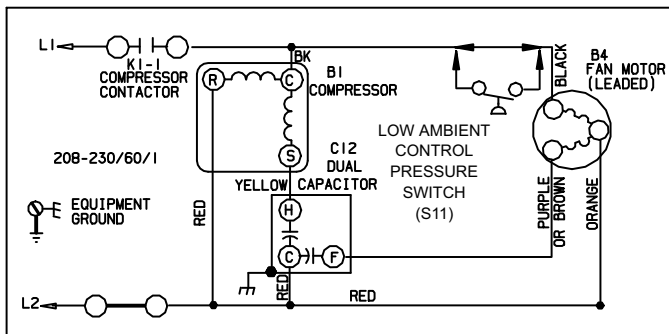

Figure 2. Typical Field Wiring of Low Ambient Control Pressure Switch (S11)
6. - Low ambient control pressure switch (S11) is wired in series with condenser fan. See figure 2 for typical field wiring for the low ambient control pressure switch.